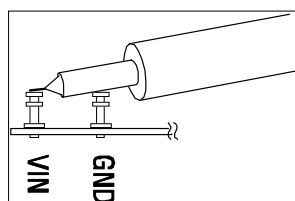

Figure 2. Measuring Input or Output Ripple
NOTE: When measuring the input or output voltage ripple, care must be taken to avoid a long ground lead on the oscilloscope probe. Measure the input or output voltage ripple by touching the probe tip directly across the Vin or Vout and GND terminals. See the proper scope probe technique in figure 2.
5. Set the load current of both outputs to 3A and the input voltage to 5.5V, and then measure each output ripple voltage (refer to figure 2 for proper measurement technique); they should each measure less than 30 mVAC. Also, observe the voltage waveform at either switch node of each regulator. The switching frequencies should be between 1.6 MHz and 2.4 MHz ($T = 625$ ns and 417 ns). In all cases, both switch node waveforms should be rectangular in shape, and 180° out-of-phase with each other. Change the shunt position on header J5 to set the switch waveforms in phase with respect to each other. To operate the ckt.s in Burst Mode™ or pulse-skip mode, change the shunt in header J7. When finished, insert shunts XJP1 and XJP2 to the OFF position(s) and disconnect the power.